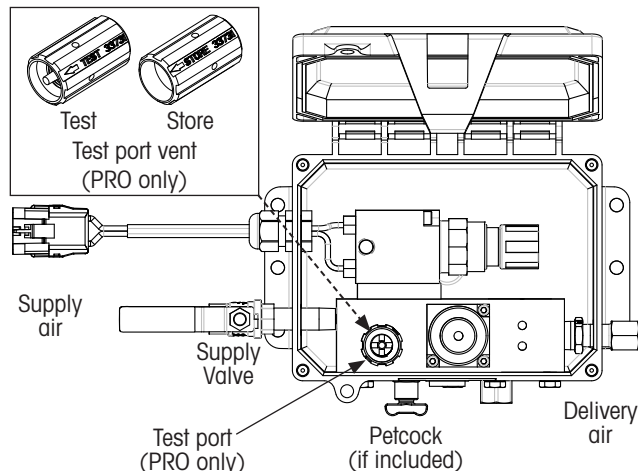

Figure 47: TIREMAAX (PRO shown) controller valves
- A. If included: The current PRO controller includes a **test port vent tool** that threads into the test port (Figure 47) in the STORE position. To perform a lamp test:
- B. If included: **Open petcock** on controller (Figure 47) to generate air flow across internal flow switch.